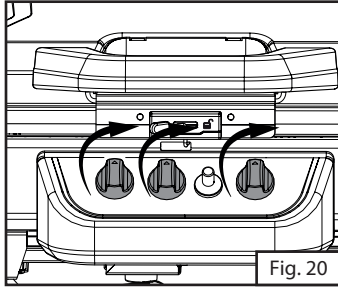

Fig. 20
1. Before attaching propane cylinder make sure all control knobs are closed. (Fig. 20)